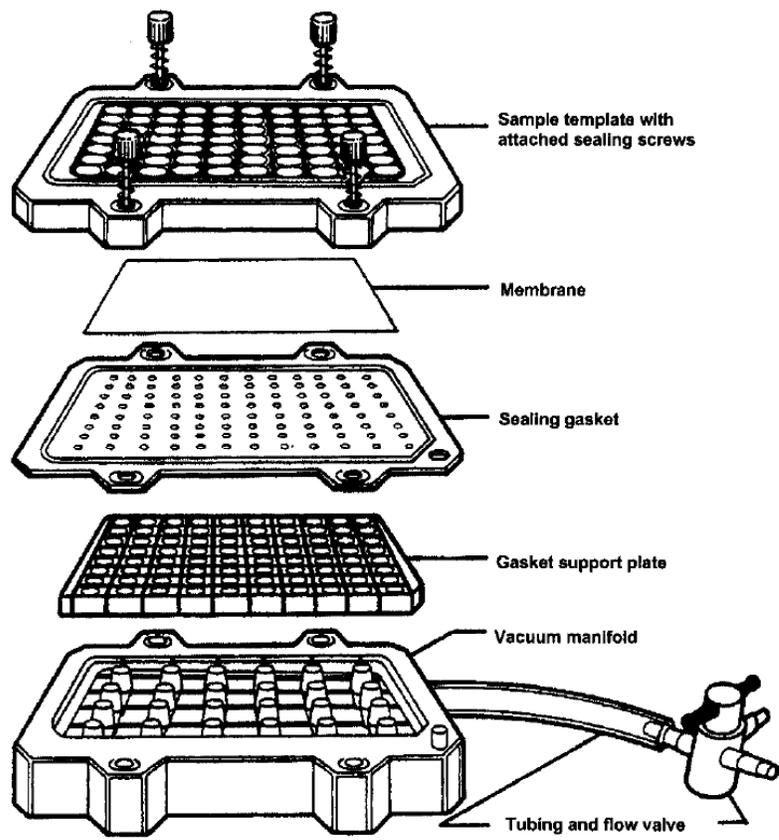

Fig. 1. Diagram of proper Bio-Dot apparatus assembly.
- Guanidinium Buffer: 6 M guanidinium hydrochloride, 5 mM EDTA, 10 mM monosodium phosphate, adjusted to pH 6.5 with NaOH. May be stored at ambient temperature (RT); cool to 4°C prior to use.
- Dot-blot apparatus (e.g. BioRad Bio-Dot, Fig. 1)
1. Place the gasket support plate into position in the vacuum manifold (Fig. 1). Place the sealing gasket on top of the gasket support plate. Inspect the gasket to ensure the holes are aligned. As needed, pull lightly at the corners until aligned.